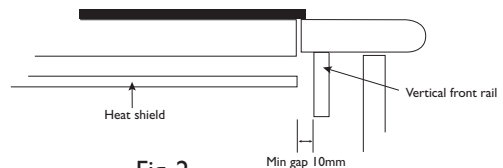

Fig. 2
- Heat shield is to finish short – min. 10mm of vertical front rail (Fig 2).